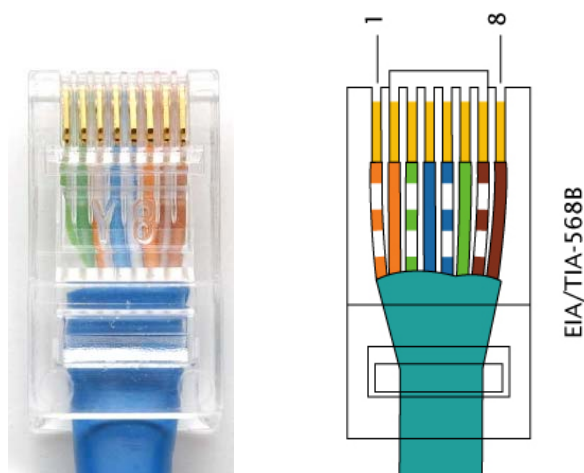

Figure 3-19 Diagram of RS485-1/2 wiring
(3) The wires are labeled 1~8 from left to right, as shown in Figure 3-19: